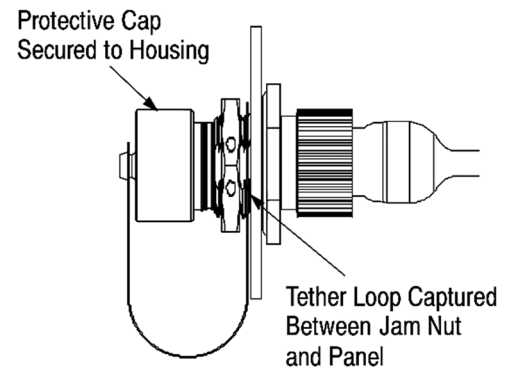

Figure 16
2. Make sure that the flange O-ring is installed in the groove of the housing flange (refer to Figure 1). Then, install the connector through the back of the panel so that the O-ring on the shoulder of the housing is flat against the panel. See Figure 16, Detail A.
3. Slide the loop of the tether of the protective cover over the threads at the front of the flange of the housing. See Figure 16, Detail A.
4. Thread the jam nut onto the housing. See Figure 16, Detail A. Using the 27-mm jam-nut socket and torque wrench, tighten the jam nut to a torque between 4.5 and 5.2 N·m (40-46 in·lb.). The O-ring will now be compressed.
5. Thread the protective cap onto the housing. Hand-tighten the protective cap. See Figure 16, Detail B.
- Section 5.8: Corrected jam nut torque value and added jam nut to Figure 16, Detail B